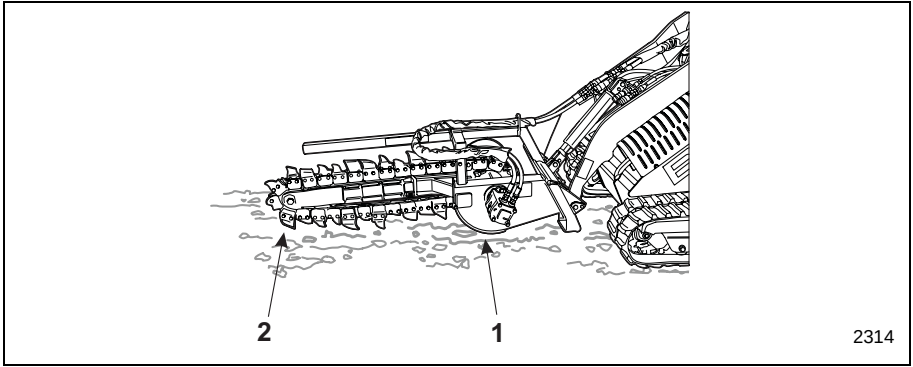

Figure 9 Initial Trencher Work Position
4. Using the tilt control lever, rotate the trencher upwards so that the front tip (Item 2, **Figure 9**) is slightly elevated and not contacting the ground.
5. Lower the attachment to the ground, making sure that the skid shoe (Item 1, **Figure 9**) is in contact with the ground and the chain is still elevated.